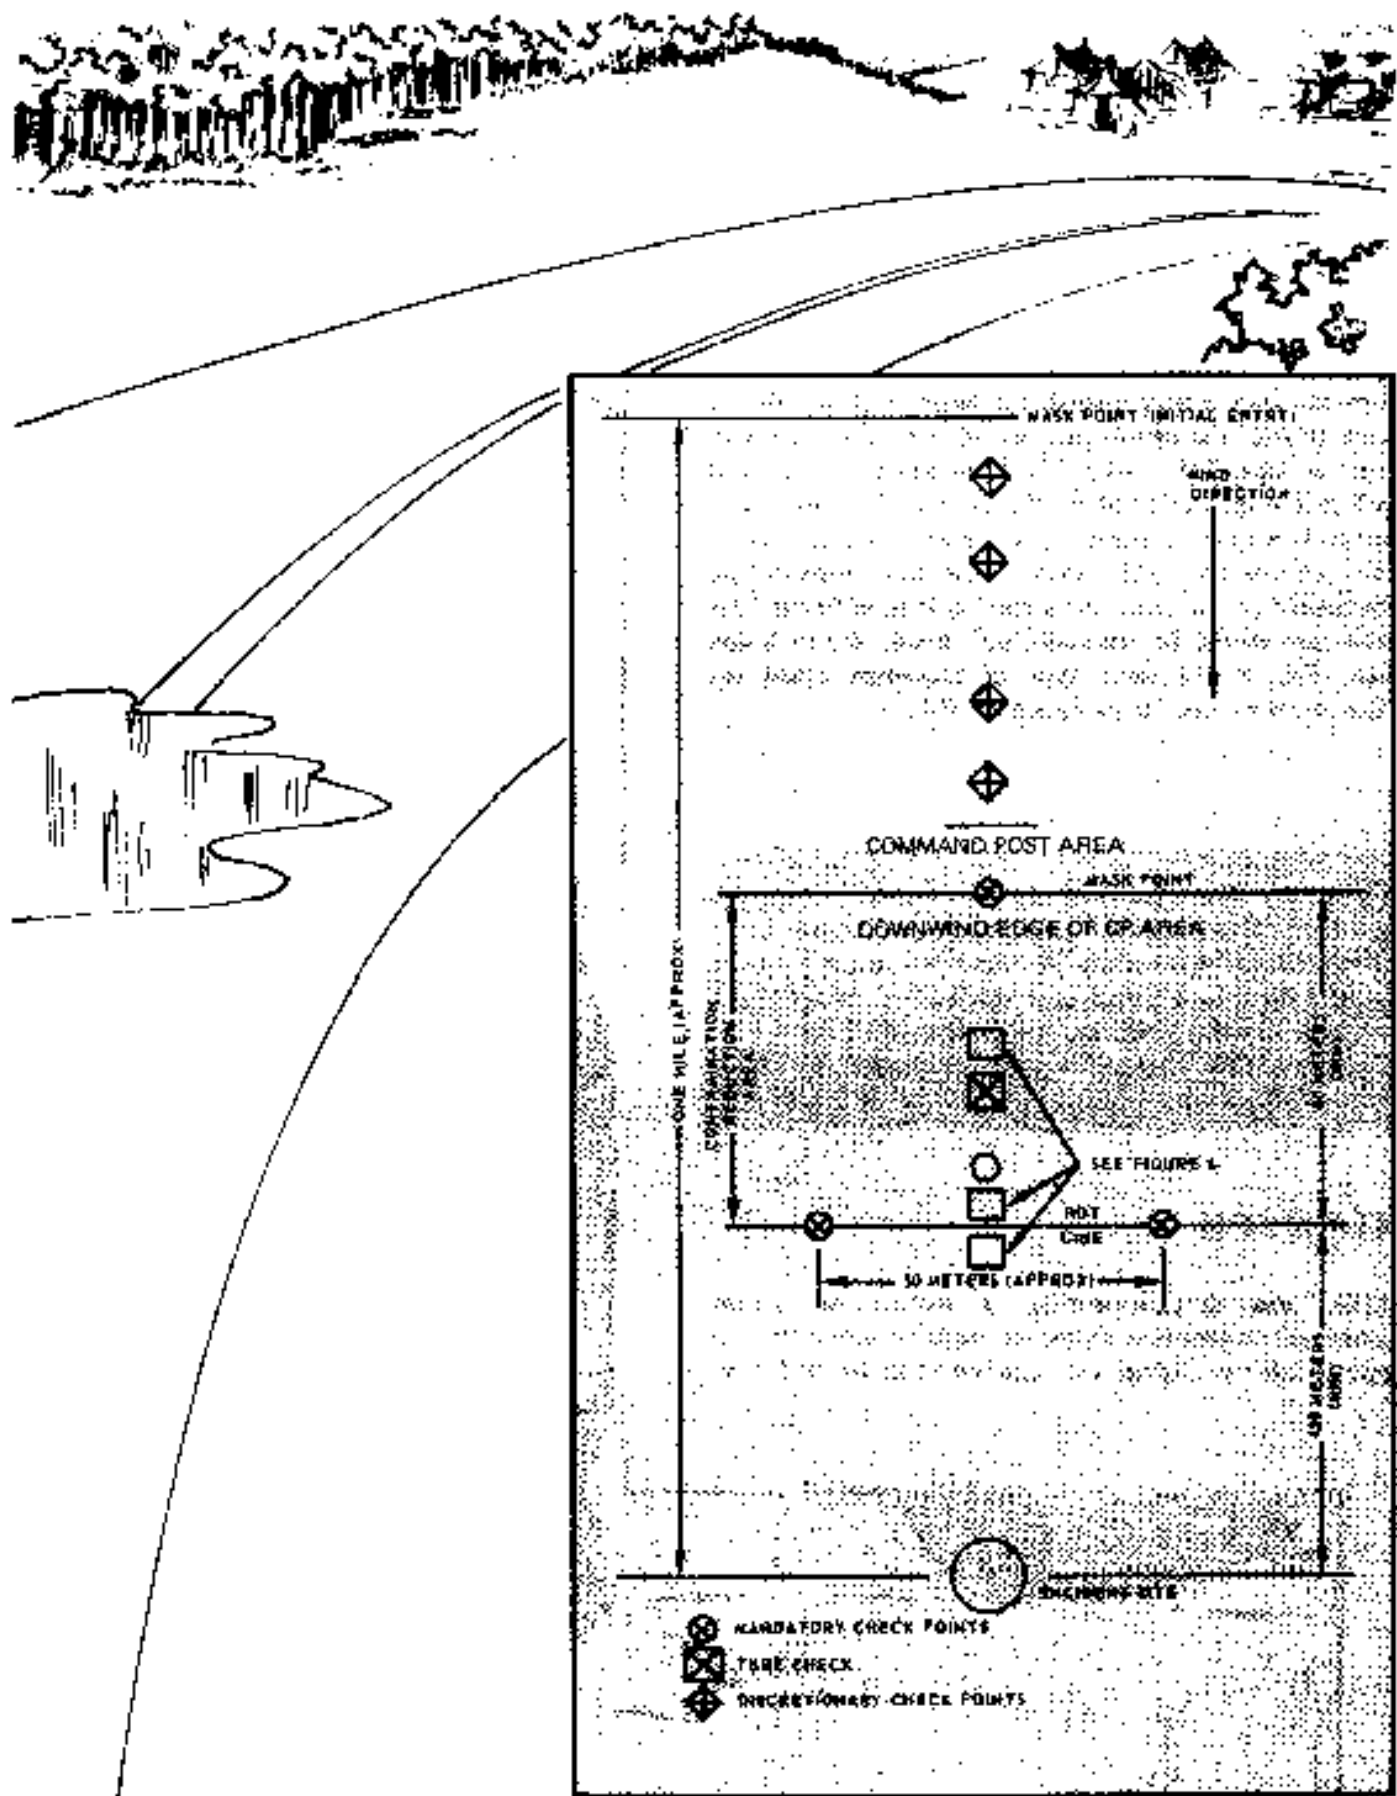

Figure 4. Organization for a Typical Chemical Incident
- The downwind edge will be at least 500 meters from the incident as indicated by figure 4.